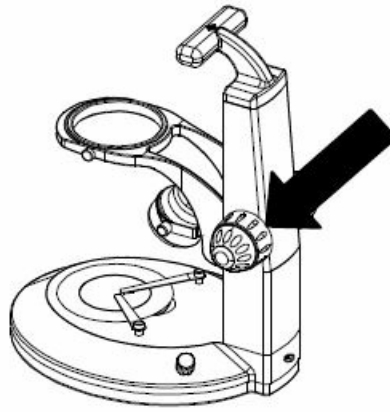

Figure 2
2. If you want to adjust the degree of tightness of the focusing arm, you can hold one of the focusing knobs and turn another one to attain a suitable position. The degree of tightness relies on the direction to be turned. The clockwise direction is tight; counterclockwise is loose. (Figure 2)